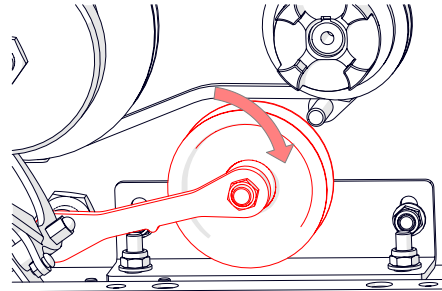

Fig. 17H - Adjust the pulley to avoid belt contact in disengaged state.
10. Adjust the pulley so when the drive lever is in the disengaged position, it rests on the support bracket (Fig.17H), avoiding as much contact with the belt as possible.